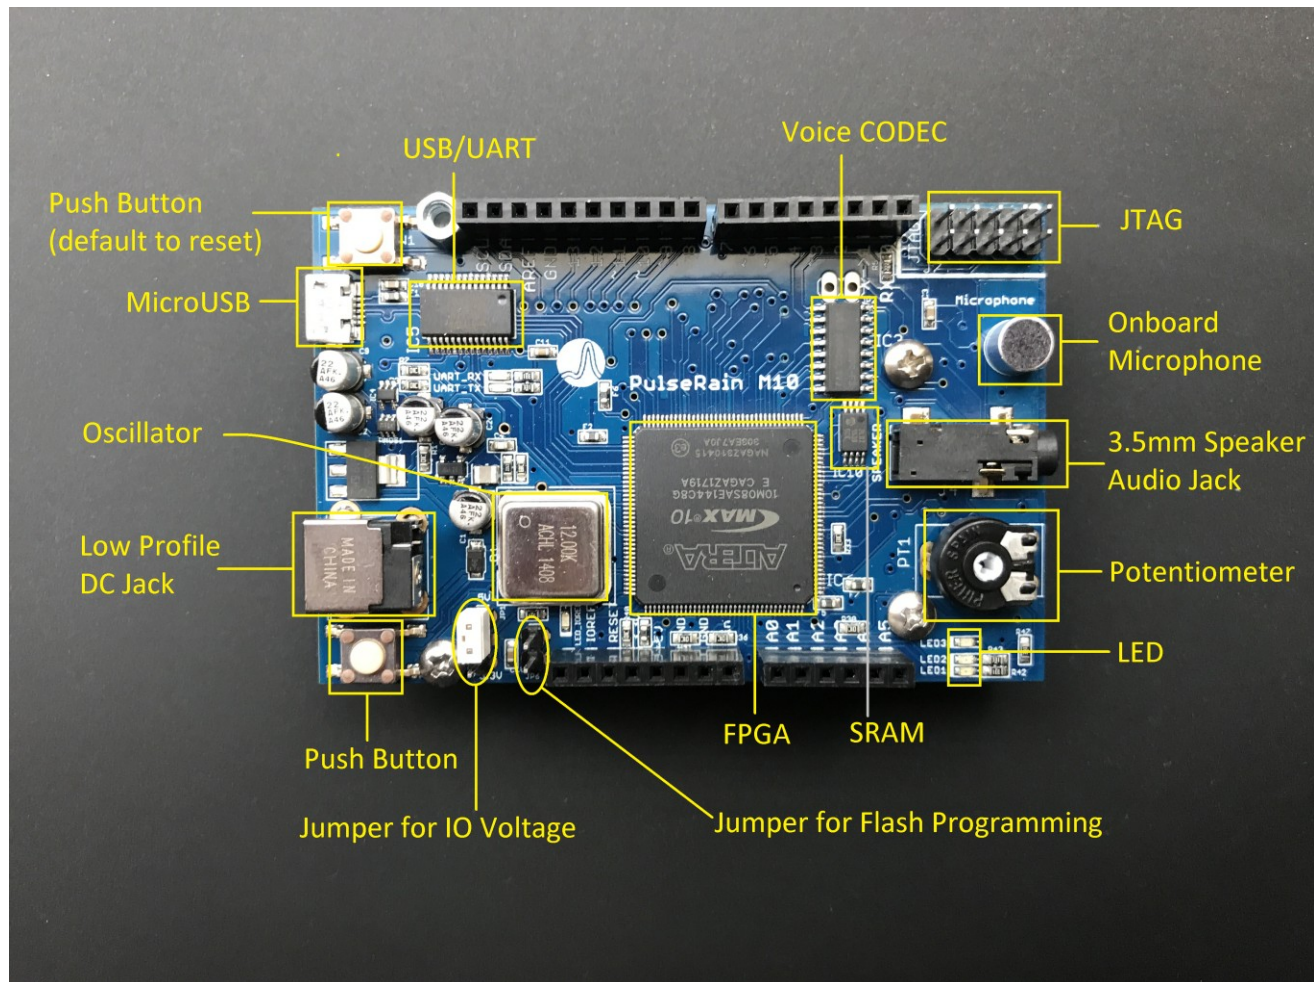

Figure 1-2 The Top View of M10
- On the top side, as illustrated in Figure 1-2: